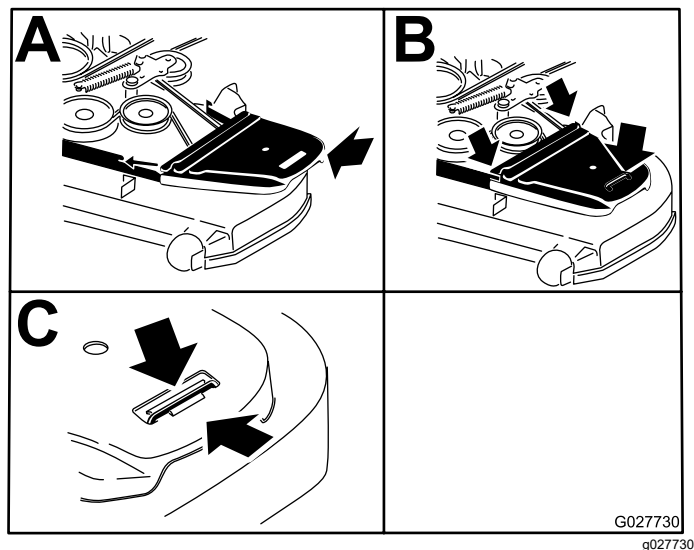

Figure 62
10. Install the belt covers and tighten the bolts (Figure 62).